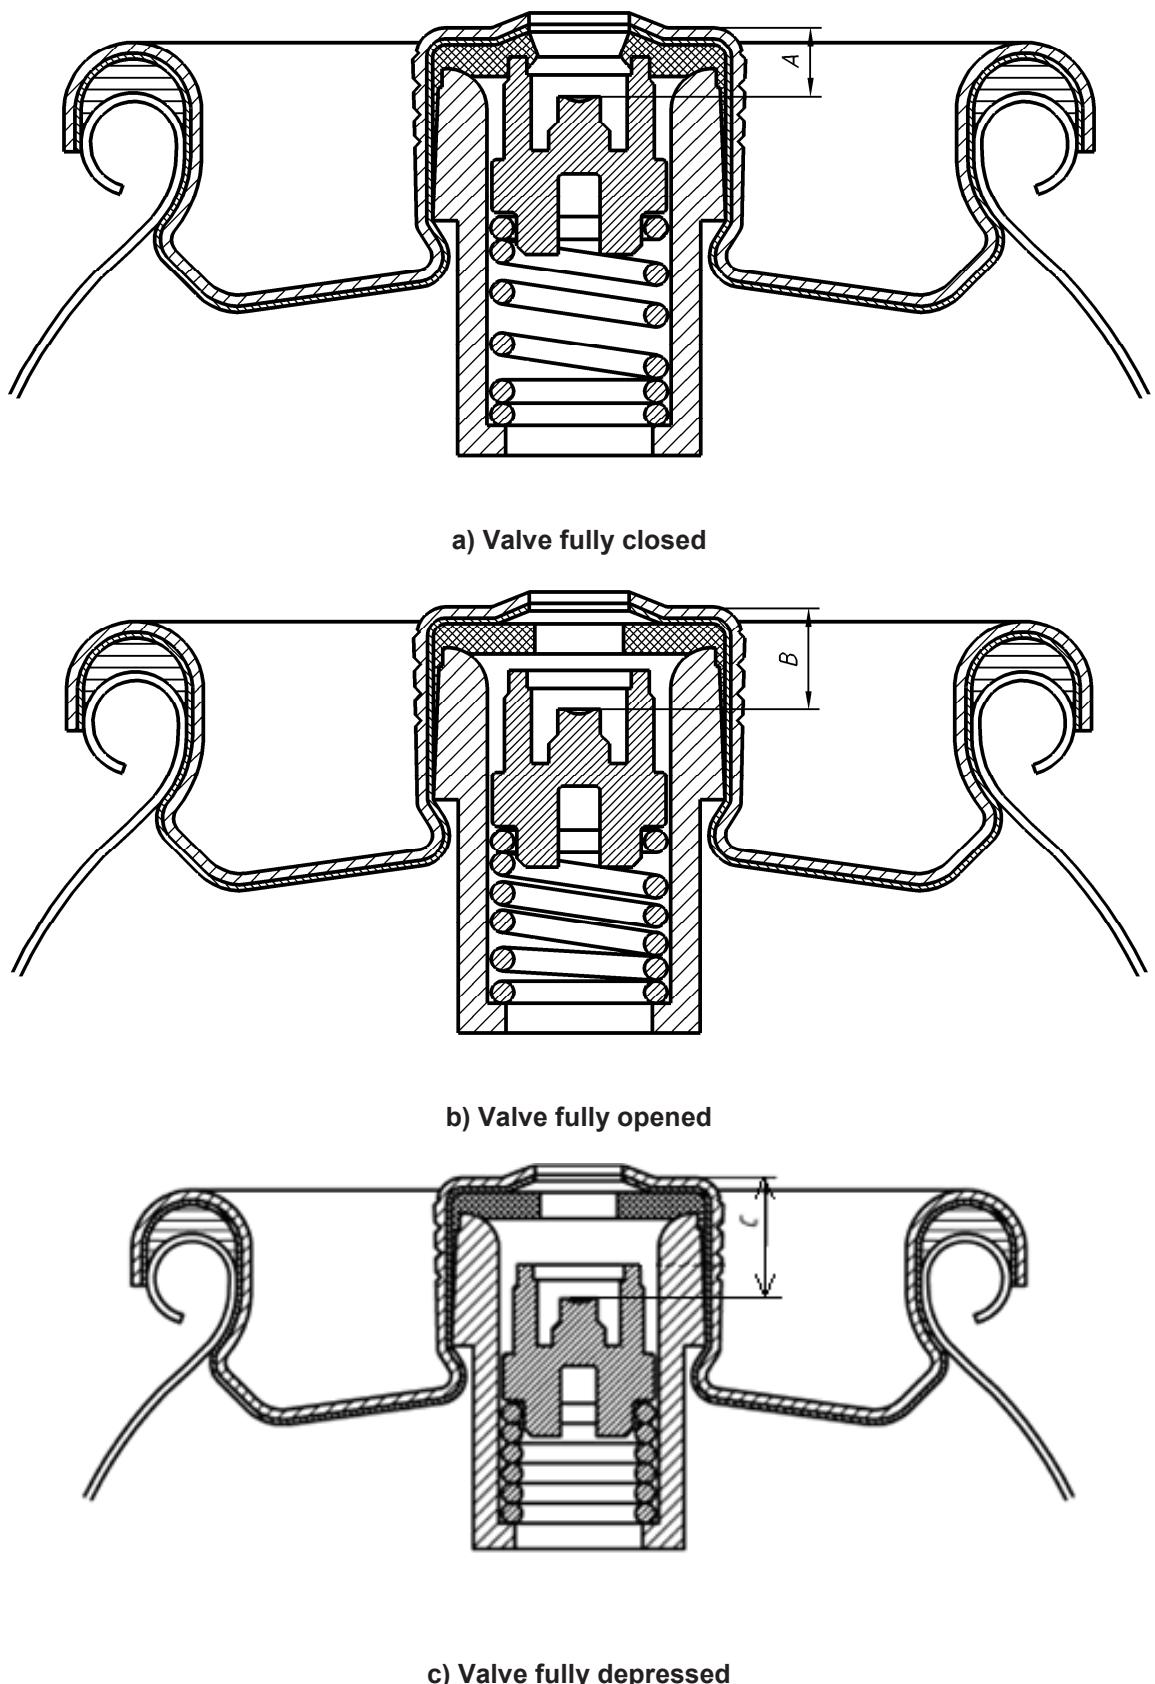

Figure 4 — Dimensions related to valve opening and closing
- l) the valve shall remain fully closed when the distance from the centre of the spigot seat to the flat surface of the boss surrounding the raised area is less than 1,85 mm (see dimension A in Figure 4). The valve shall be fully opened when the distance is more than 3,5 mm (see dimension B in Figure 4);
It shall be possible to depress the centre of the spigot seat at least 4,15 mm below the flat surface of the boss surrounding the raised area without damage to the valve or the valve-housing (see dimension C in Figure 4).